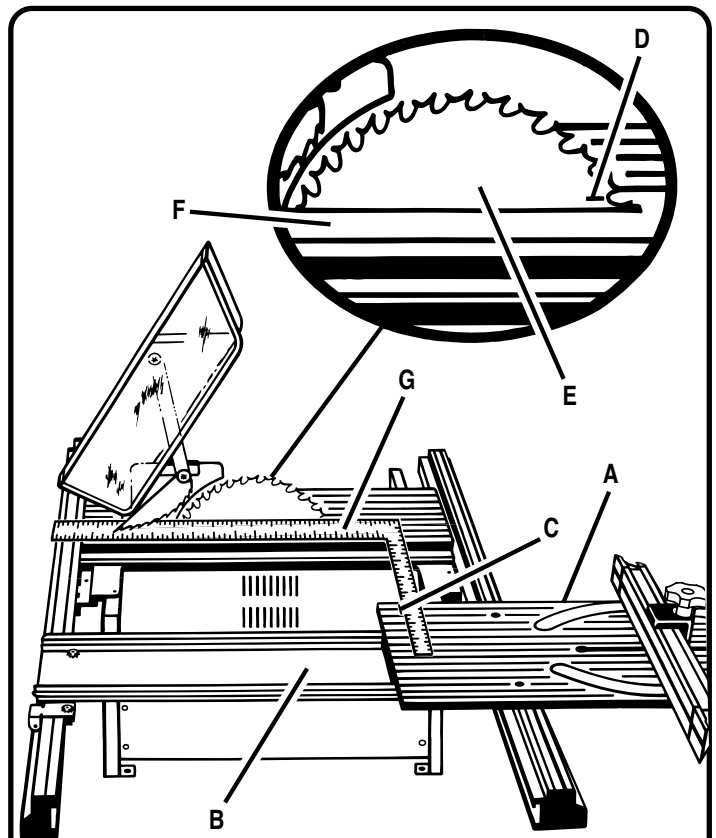
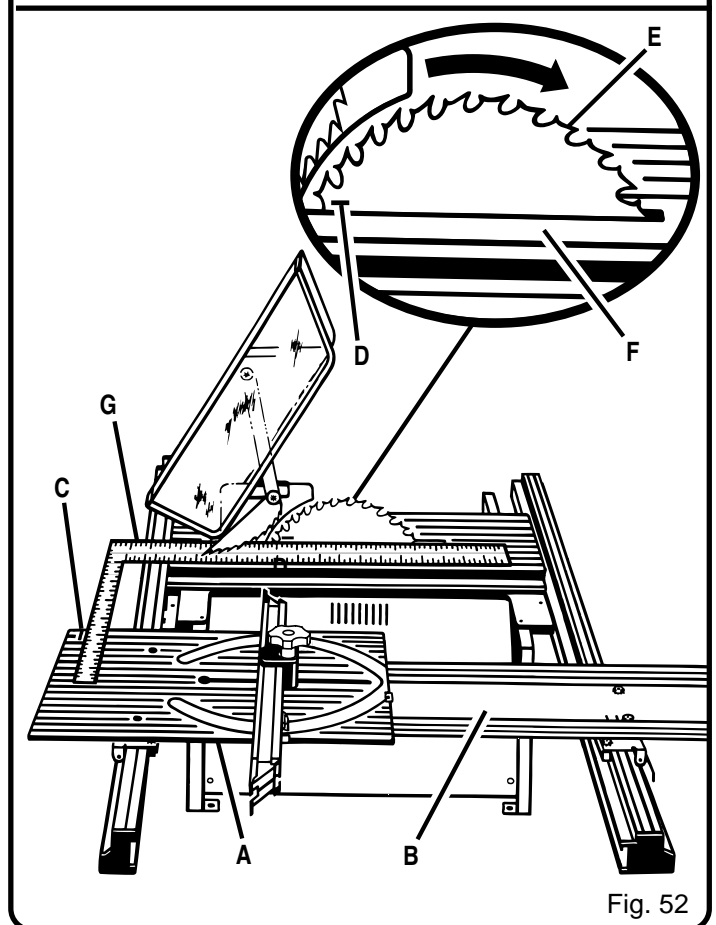

Fig. 51
Fig. 52
- Slide miter table (A) to the front of miter base (B) as far as it will go. Place a reference mark (C) near the end of the miter table as shown in figure 51.
- Place a reference mark on one of the blade teeth (D) and rotate the blade (E) so that the reference mark on the blade is at the front of the throat plate (F).
- Place a framing square (G) against the blade and align with reference mark on miter table. Measure the distance between the blade and the edge of miter table.
- Remove framing square and slide miter table to the rear of miter base as far as it will go. See Figure 52.